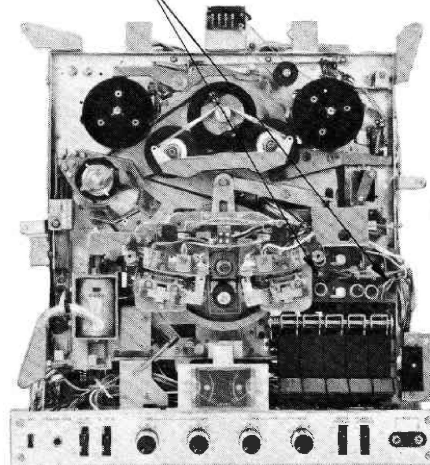

Fig. 25
- 3) Compensation circuit board: Remove two screws shown in Fig. 25.